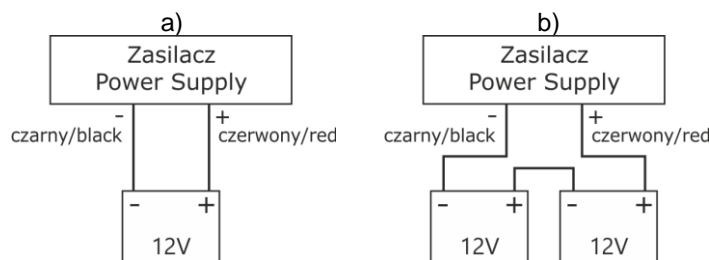

Fig. 4 Connecting batteries depending on version of power supply:
2. Connect the batteries with the PSU paying special attention to the correct polarity and type of connections (Fig. 4):